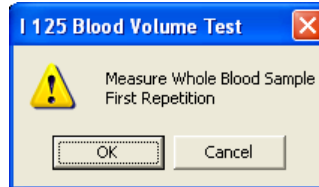

Figure 10-43
6. The next screen appears as shown in Figure 10-43, prompting you to measure the whole blood sample.
To measure the plasma sample, place that sample in the well and click the button. To quit counting, click the button and Figure 10-43 will appear.